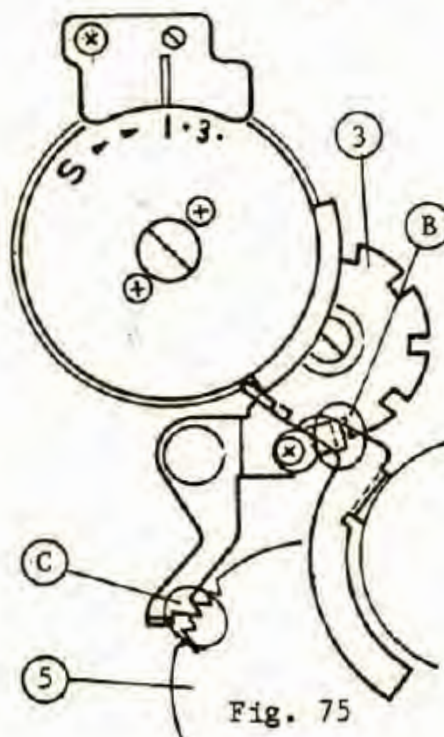

Fig. 75
- 2) When the film counter reaches to No. 1, the (A)-Protrusion passes over, (B)-end of the SLS15842 Stop lever gets into (3)-Film counter dividing device and the other end (C)-pawl gets into between teeth of the F.clutch wheel as shown in Fig. 75.